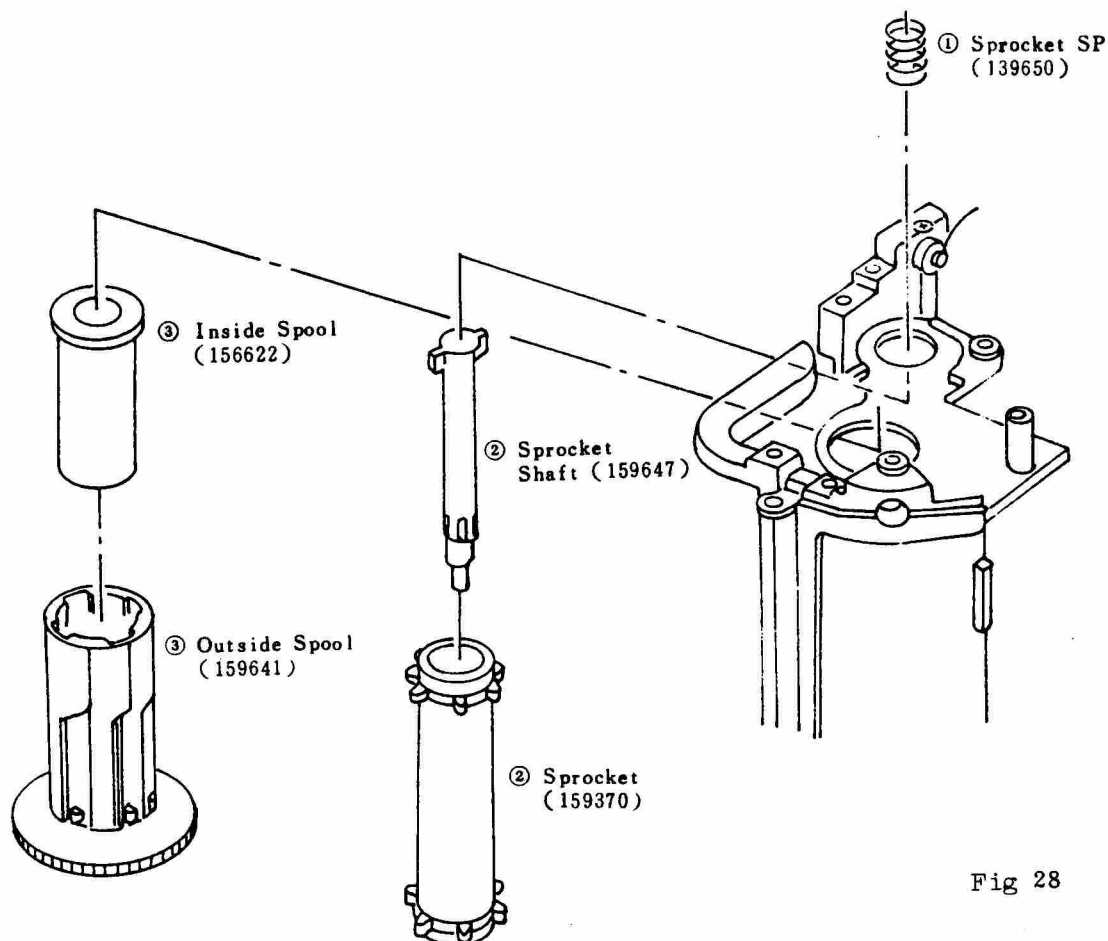

Fig 28
d) Remove the respective parts ① ~ ③ shown in (Fig 28) in numerical order.